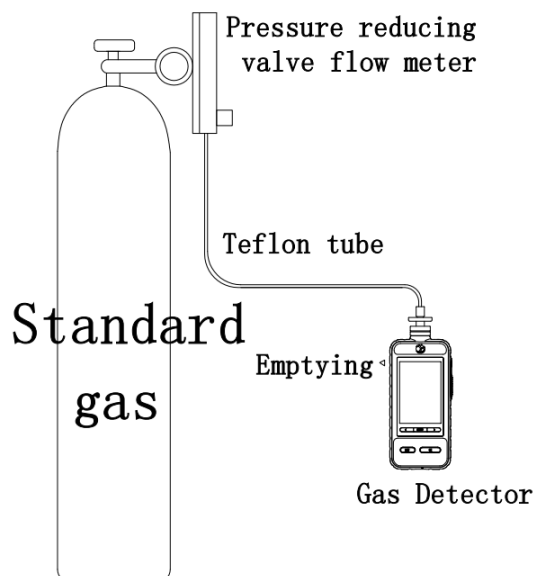

Figure 20
(1) After the instrument is turned on and enters the detection interface, the standard gas with known concentration is connected to the intake of the instrument through the PTFE pipe (Figure 20).